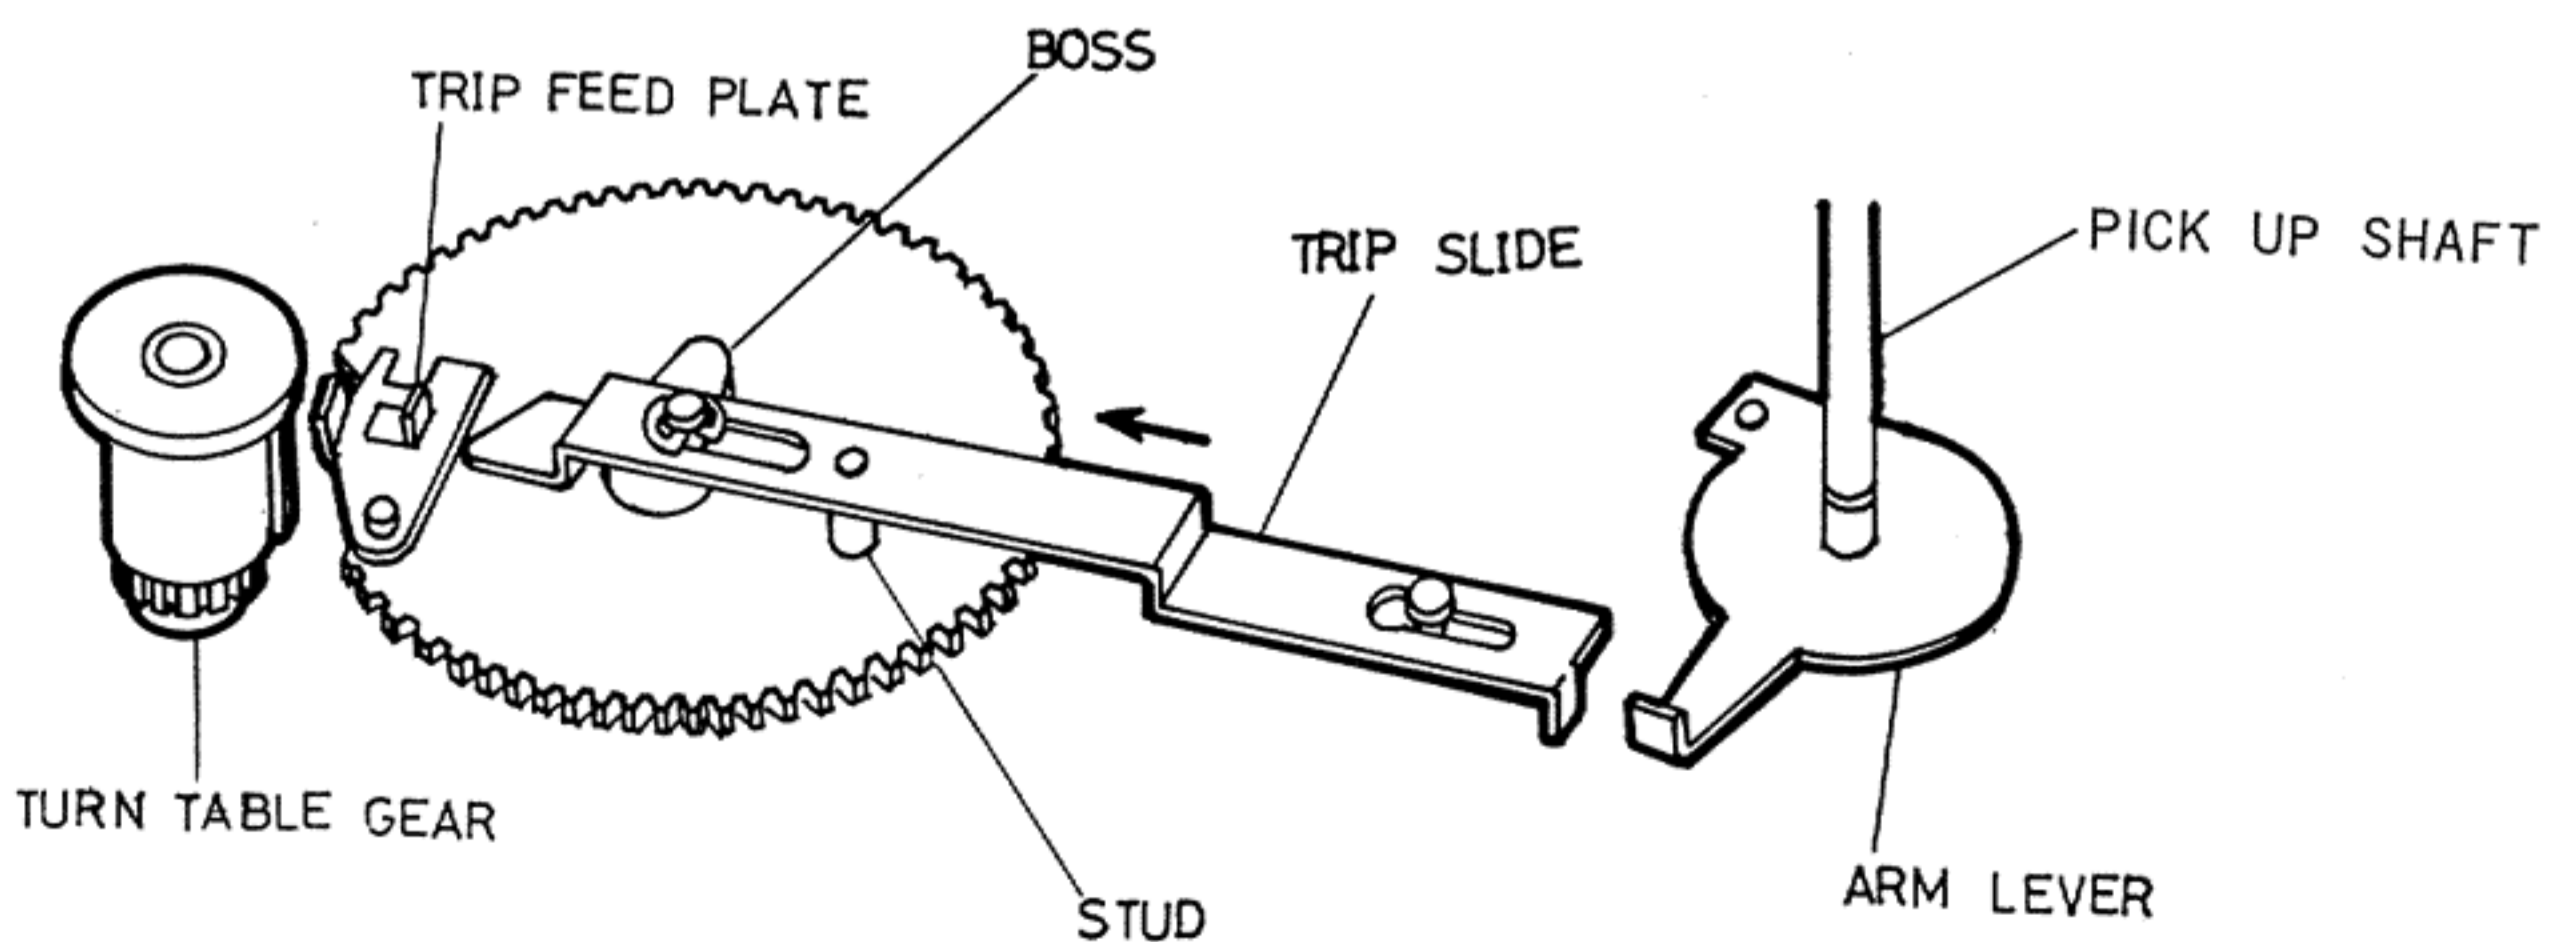

Fig. 7
## LEAD-OUT (Fig. 7)
- g. Simultaneously (Fig. 7 & 8), the Cam pushes the Stud and returns the Trip Slide to original position.